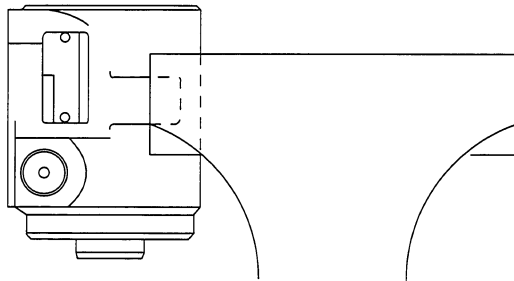

Figure 5
- 19 Clamp the housing in a vise as shown in figure 5. Use just enough clamping force to hold the housing securely.